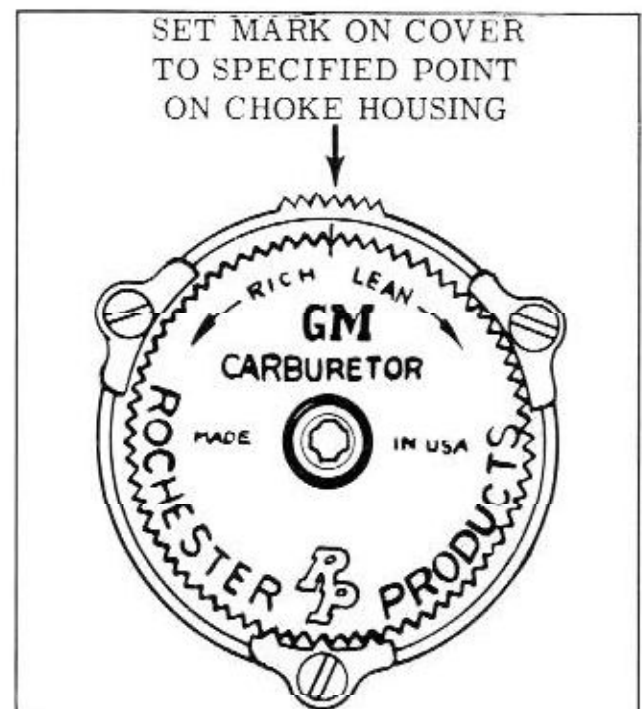

Fig. 8-82 Choke Cover Index
5. Rotate thermostatic cover counterclockwise until the choke valve begins to close and continue in rotation until the proper index marking is aligned as specified. (Fig. 8-82)